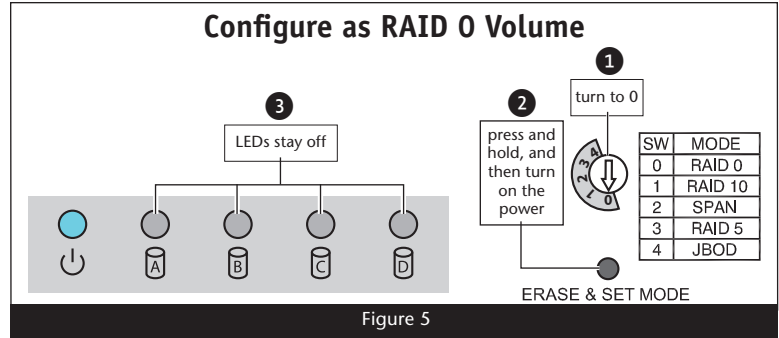

Figure 5
- to the 0 position for RAID 0 (Figure 5)